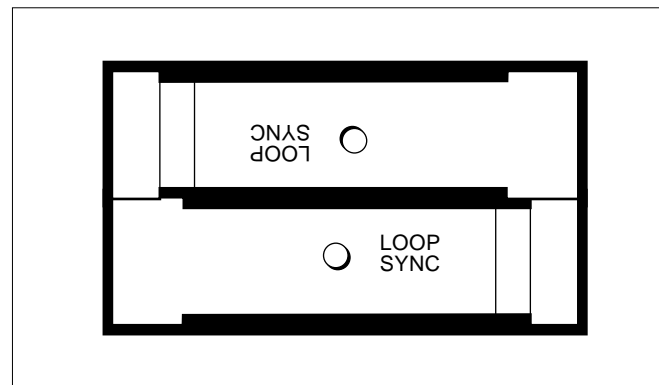

Figure 4. Loop Sync Indicators
3.1 A green LED at the rear of the unit is provided to aid in circuit turn up and diagnostics; see **Figure 4**. The indications provided by this LED are described in **Table C**.
3.2 Upon insertion into the correct slot in an environmental housing, the LOOP SYNC indicator at the rear of the unit away from the edge connector (see **Figure 4**) *Flashes* green three times. This indicates that the unit is receiving power from the U-RPM and has passed a power-on self test. Failure of this indication may be due to incorrect or shorted wiring, either at the MDF between the LT and the U-RPM or between the U-RPM and the U-Repeater III, or may be due to insertion in an incorrect slot of the environmental housing. These conditions must be cleared before circuit turn up may proceed.